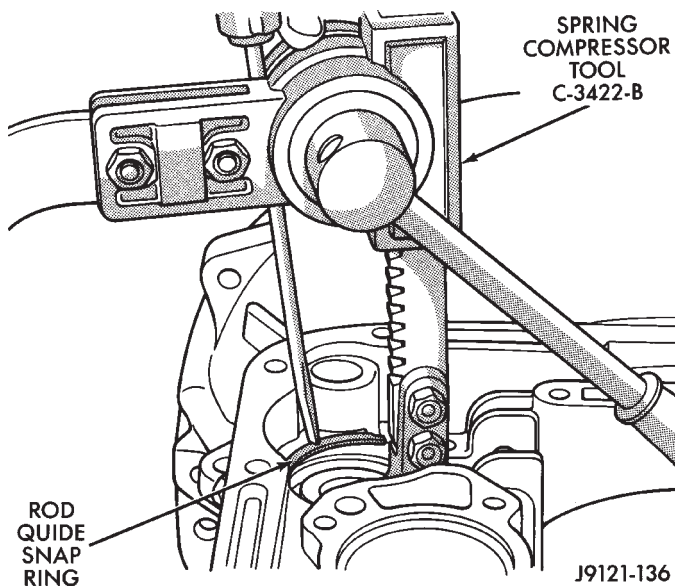

Fig. 30 Compressing Front Servo Rod Guide
(42) Compress front servo rod guide about 1/8 inch with Valve Spring Compressor C-3422-B (Fig. 30). A C-clamp and Special Tool C-4470 can also be used to compress rod guide.